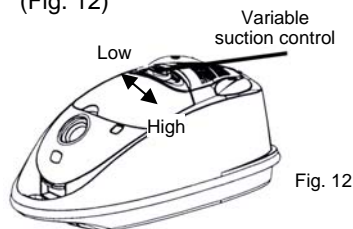

Fig. 12
2. To return to powerful suction control slide the variable suction control button to the right until it stops. (Fig. 12)